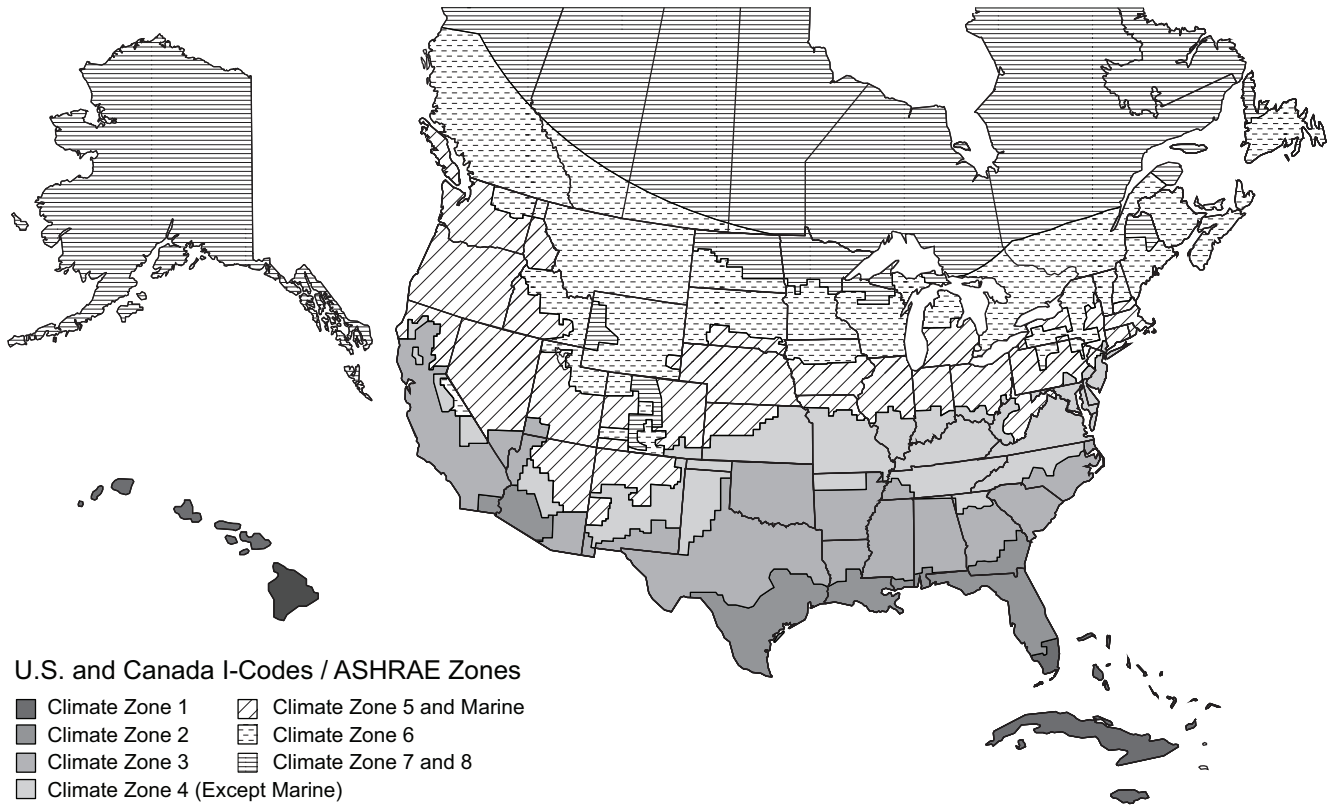

Fig. 84 — U.S. and Canada Climate Zones
- a. See Fig. 84 for map of U.S. and Canada climate zones.